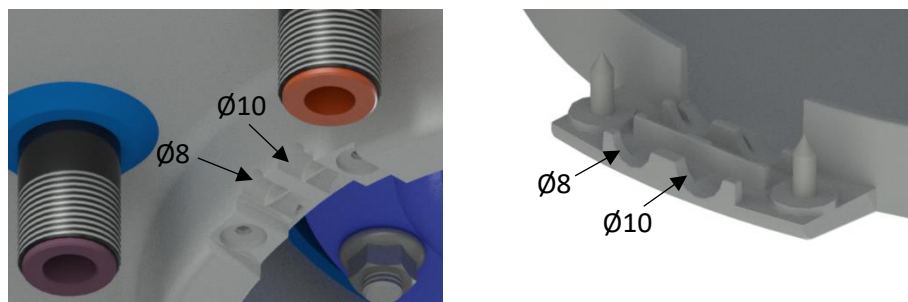
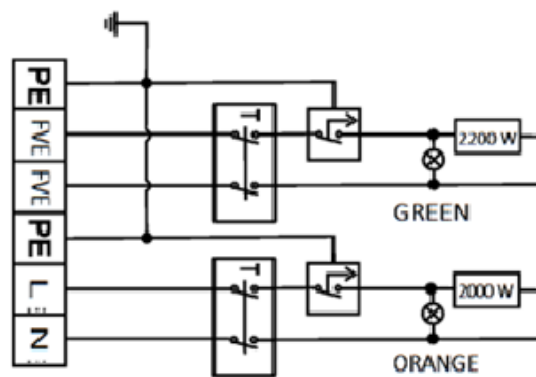
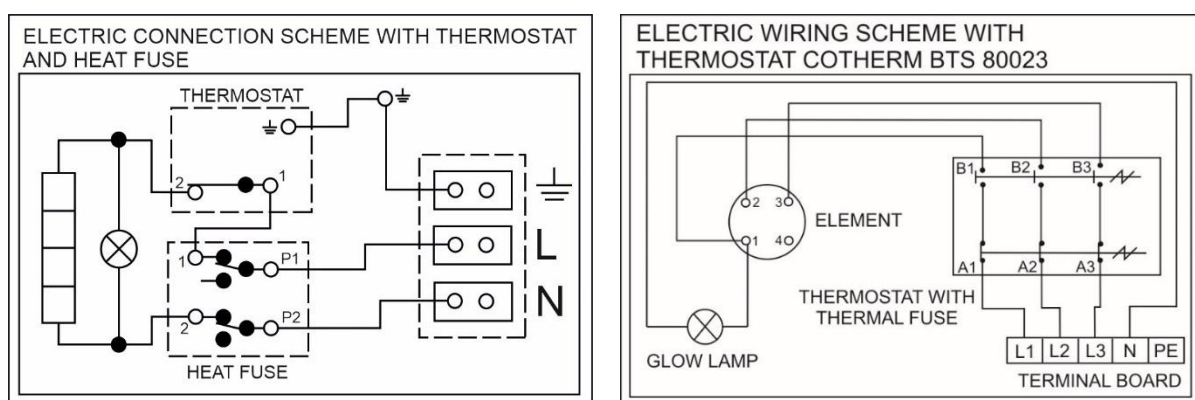

Figure 7
Figure 8
Figure 9
Perform the connection according to the scheme. Factory connection must not be changed! (Figure 8, Figure 9) the electric wiring casing remove the partition corresponding with the input wire diameter of  $\varnothing 8$  or  $\varnothing 10$  (Figure 7). The degree of protection of electric parts of the heater is IP 44. Power input of electric element is 2000 W and 2200 W for heater OKCE 2/2 kW. Power input of electric element is 2000 W and 4000 W for heater OKCE 2/4 kW.
- The electric wiring scheme is attached to the water heater on the side of the electric installation guard (Figure 9)